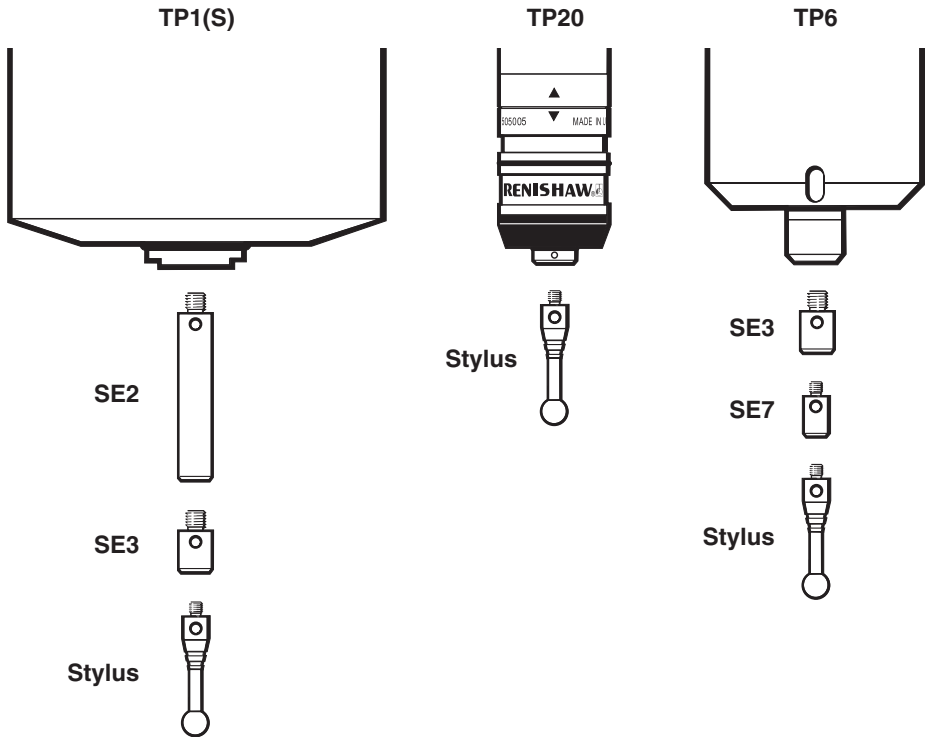

Figure 4 - Adaptors and extensions
1. Attach the special, calibrated stylus of the MCG (this can be readily identified by the two grooves cut within the stylus stem) to your touch-trigger probe. If necessary, use the extensions and adaptors supplied to allow the calibrated stylus to be fitted to the probe (see figure 4).